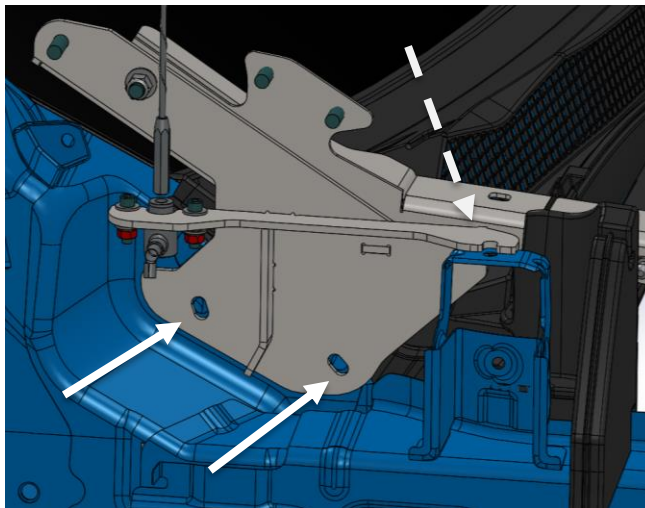

Figure 8
6. Using the factory fender bolt, hand tighten the front bracket mount. (**Figure 8, dashed white line**)
7. Loosely install the two (2) factory bracket bolts (**Figure 8, solid white lines**)